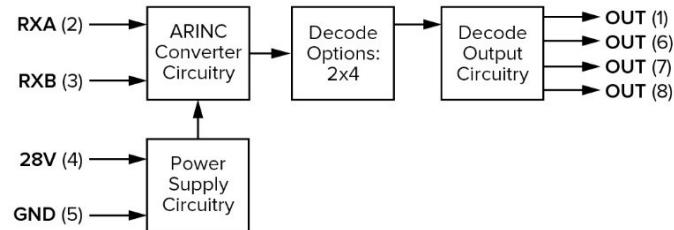

FIGURE 32. SR429/4D 2x4 Series-N or Series-R.
2 x 4 Decoder: unit provides a binary decode of two ARINC 429 data bits converted into four output signals, each corresponding to a single binary decode permutation (i.e. 00,01,10,11) The 2 X 4 Decoder can be configured as a Series-N (8 pin) or a Series-R (12 Pin) device as shown in Figure 32. The additional outputs options in a Series R device include 1) a specific decode of individual ARINC 429 bits (including the two individual bits used in the primary decode), 2) Health Monitor (H) and 3) Watchdog (W).